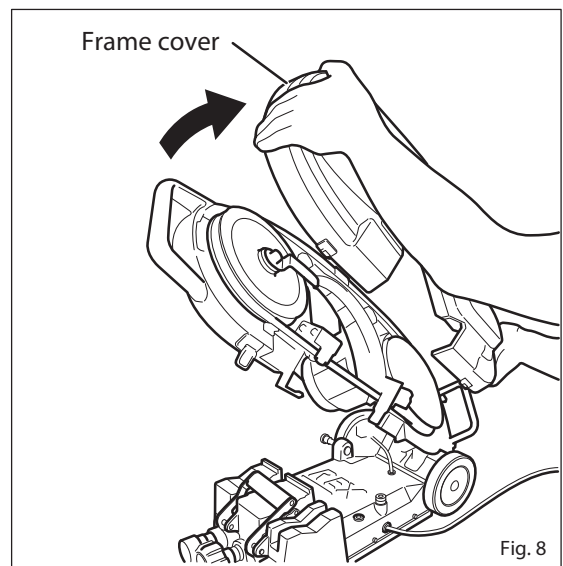

Fig. 8
- (2) Hold the frame cover and slide it upward to remove. (Fig. 8)